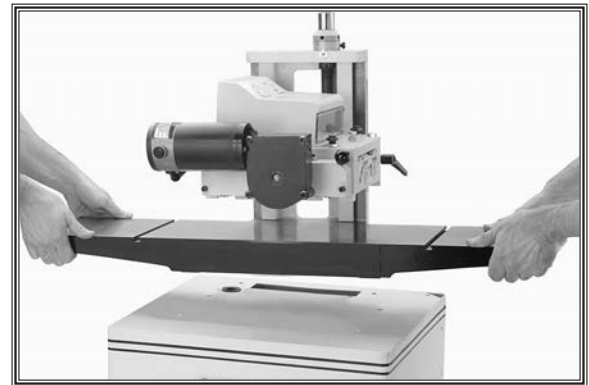

Figure 11. Placing planer/moulder on stand.
6. With the help of an assistant, lift the planer/moulder headstock and position it onto the stand, as shown in **Figure 11**.